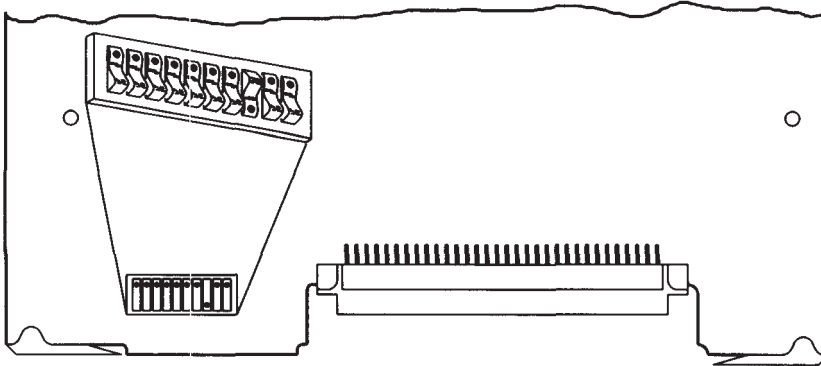

Figure 3-9.
- If your system contains 16 Mbytes in any combination, set the address switches on the new board according to Figure 3-9 and then skip down to step 10: